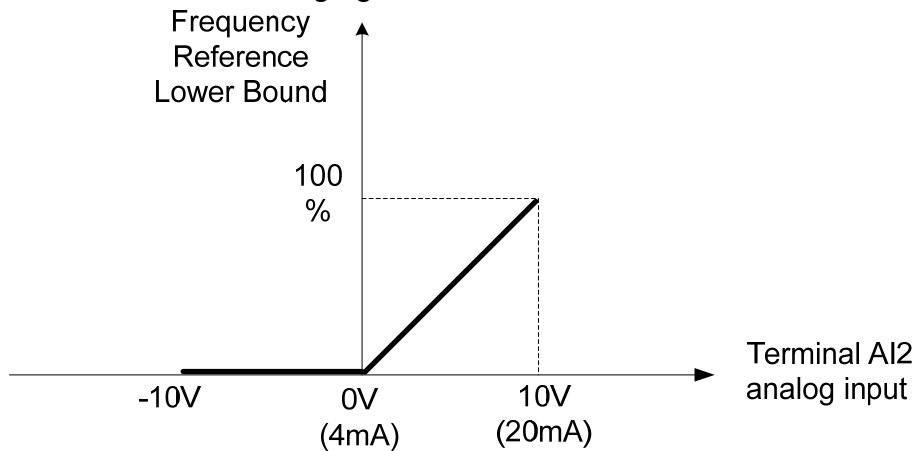

Figure 4.3.47 Adjustment of lower limit of frequency reference
(9) Frequency lower limit (Setting = 8).
- . Please refer to the following figure 4.3.47.